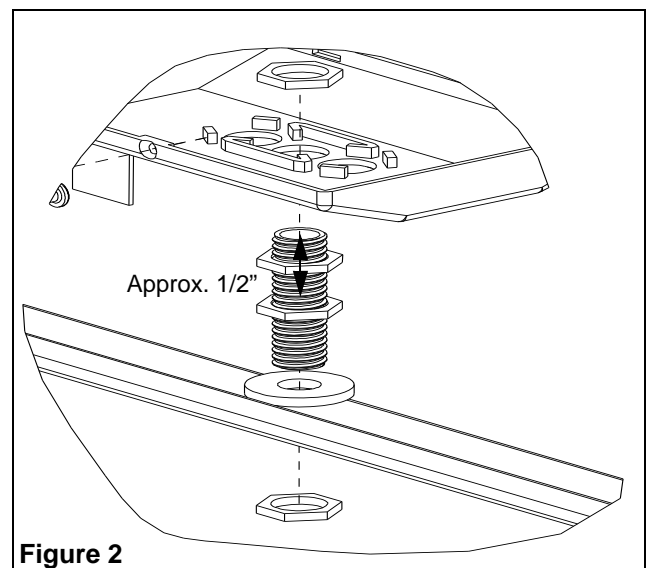

Figure 2
4. Install the canopy on the nipple using a *Hex-nut* on the top end of the stem and pull the nipple through the center hole of the canopy (see Fig.2). Install another *Hex-nut* from the bottom of the nipple and thread it until it contacts the canopy and tighten the two *Hex-nuts*. Install the third *Hex-nut* onto the nipple and leave about a 1/2" distance between the two *Hex-nuts*. Install the foam gasket and the last *Hex-nut* and tighten the whole assembly.